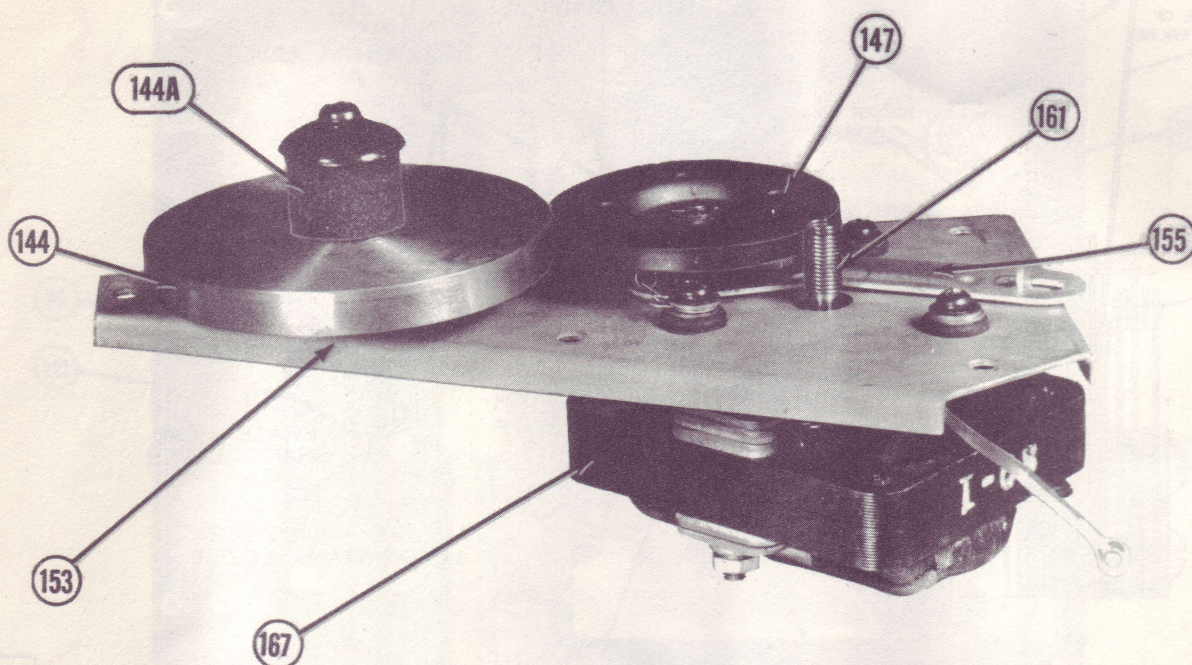

FIGURE 7—DRIVE ASSEMBLY UNIT
11. The drive assembly is illustrated in Fig. 7. The proper operation of this mechanism is extremely important to satis-